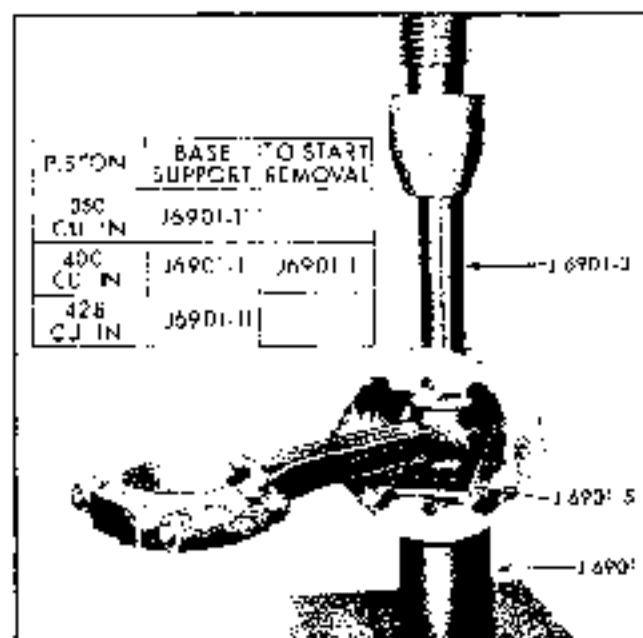

Fig. 6-122 Installing Piston Pin
1. Place pilot plunger and spring in the support base to be used as a pilot and stop. See Fig. 6-122 insert for correct base support and pilot plunger for type pistons being serviced.
4. Place tool J 6901-3 in piston pin and press pin into piston and connecting rod (Fig. 6-122) until piston pin bottoms against plunger of tool J 6901. Piston must turn freely on pin. If piston binds on pin, disassemble, hone piston pin bosses slightly and reassemble.